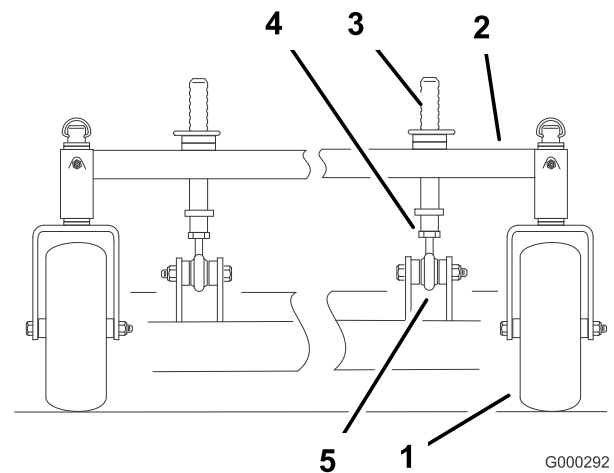

Figure 59
1. To change the front-to-rear pitch, the front height-of-cut posts can be adjusted (Figure 59).
2. To raise the front of the deck, loosen jam nut and rotate the front pin clockwise (Figure 59).
3. To lower the front of the deck, loosen jam nut and rotate the front pin counter clockwise (Figure 59).
4. Position the blades front-to-rear. Measure at **C** and **D** locations (Figure 59) from a level surface to the cutting edge of the blades.
6. Tighten the jam nuts (Figure 59).